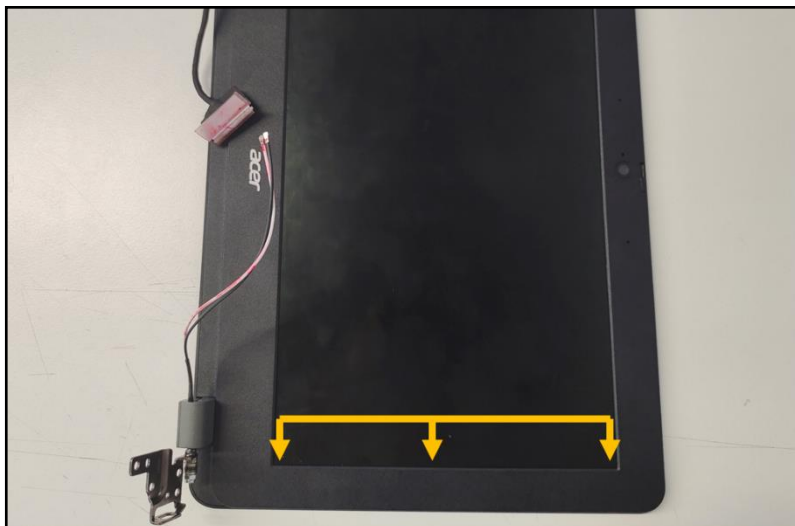

Figure 3-44. LCD Panel Removal
2. Continue prying the latches on the right side of the LCD panel as shown in Figure 3-44.